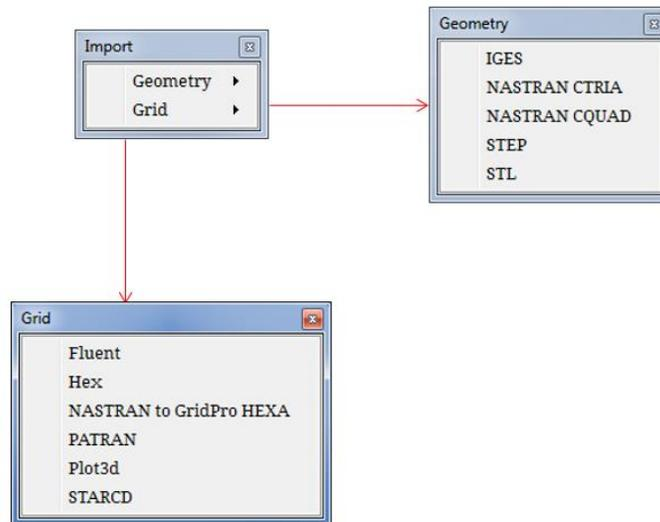

Figure 2.18: Import formats of geometry and grid
**Import** option allows you to import various geometry and grid formats into the *GridPro* UI. Once the appropriate file is selected, it converts the respective file to *GridPro* format and loads into the UI. Figure 2.18 shows various import geometry and grid formats available in the UI.